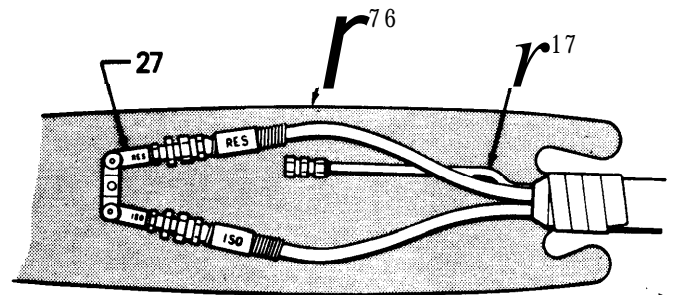

Fig 19
- b. Lay the hose assembly and abrasion cover (76) end to end. Refer to Fig 19.
- c. With the gun disconnected from the manifold and starting at the gun manifold (27), pull a couple of inches of the cover over the hose and tape it in place.
- d. Push the cover onto the hose. See Fig 19. The cover will double over itself and be turned inside out as it slides over the hose.
- h. Connect the air hose (17) to the gun. Loop the extra hose down between the gun and whip hose.